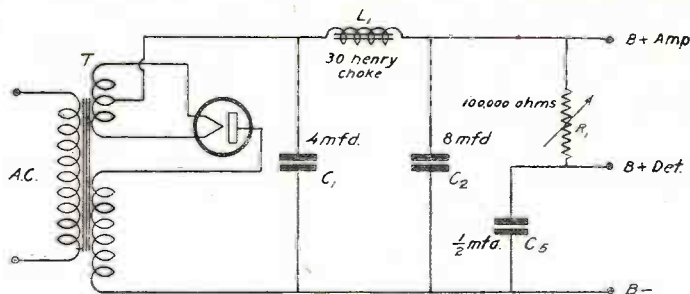

Fig. 25 - "B" Power Supply using half-wave filament type rectifier.
(10) Filament-Type Rectifiers. Figs. 25 and 26 show typical circuits of half-wave and full-wave filament rectifiers, the latter consisting of two half-wave rectifiers so connected as to obtain full-wave rectification. The type '81 tube is a typical half-wave rectifier. Fig. 27 shows a full-wave rectifier circuit employing a full-wave rectifier, such as the type-'80 tube. A comparison of these three circuits will give a fundamental idea of the basic principles involved, as they are all fundamentally the same and subject to the same defects. Like defects or troubles produce like symptoms in all.